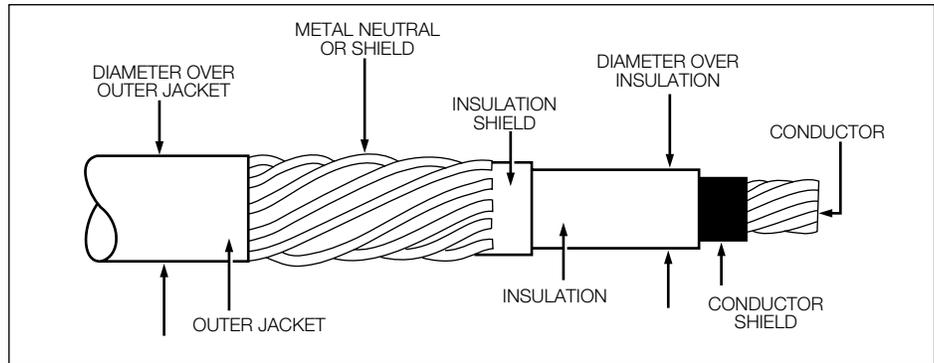

Figure 4. Illustration showing typical construction of medium voltage underground cable.
STEP 1: Determine the cable's diameter over the electrical insulation as shown in Figure 4 (including tolerances) from cable manufacturer. Then identify a cable range from Table 3 that brackets the minimum and maximum insulation diameters. Select the CABLE RANGE CODE from the far right column.